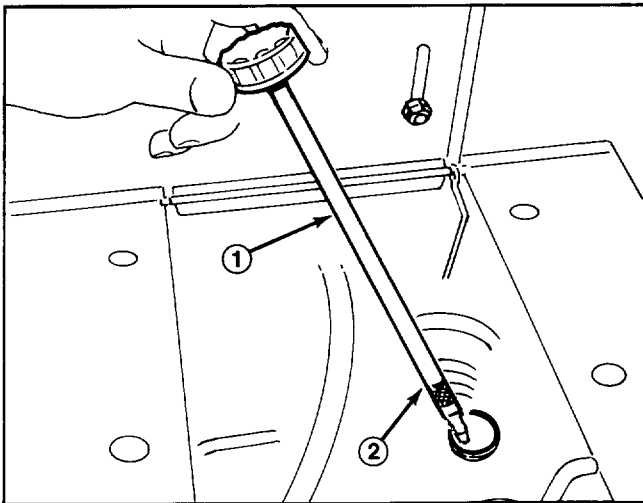

Figure 4
3. Remove dipstick from fill tube (Fig. 4).
5. Slowly pour oil into crankcase (Fig. 4). The engine uses any high quality detergent oil having the American Petroleum Institute — API — “service classification” MS, SC, SD or SF. Oil viscosity — weight — must be selected according to anticipated ambient temperature.
6. Rock the rider gently to release any air that may be trapped in crankcase. Screw dipstick fully into fill tube; then remove it and make sure that oil level is up to FULL mark on dipstick (Fig. 4). If level is low, add only enough oil to bring level up to FULL mark.